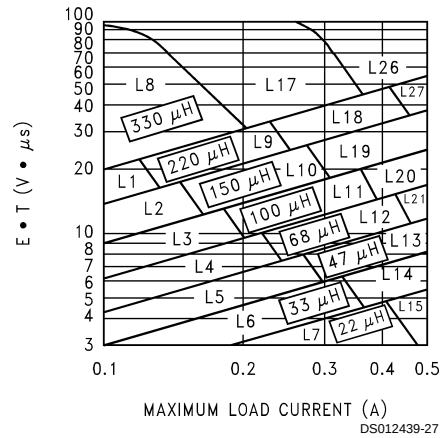

FIGURE 7. LM2594/LM2594HV-ADJ
1. Programming Output Voltage (Selecting R_1 and R_2, as shown in Figure 1.) Use the following formula to select the appropriate resistor values. $V_{OUT} = V_{REF} \left(1 + \frac{R_2}{R_1} \right) \quad \text{where } V_{REF} = 1.23V$ Select a value for R_1 between 240Ω and 1.5 kΩ. The lower resistor values minimize noise pickup in the sensitive feedback pin. (For the lowest temperature coefficient and the best stability with time, use 1% metal film resistors.) $R_2 = R_1 \left(\frac{V_{OUT}}{V_{REF}} - 1 \right)$ 2. Inductor Selection (L1) A. Calculate the inductor Volt microsecond constant $E \cdot T$ ($V \cdot \mu s$), from the following formula: $E \cdot T = (V_{IN} - V_{OUT} - V_{SAT}) \cdot \frac{V_{OUT} + V_D}{V_{IN} - V_{SAT} + V_D} \cdot \frac{1000}{150 \text{ kHz}} (V \cdot \mu s)$ where V_{SAT} = internal switch saturation voltage = 0.9V and V_D = diode forward voltage drop = 0.5V B. Use the $E \cdot T$ value from the previous formula and match it with the $E \cdot T$ number on the vertical axis of the Inductor Value Selection Guide shown in Figure 7. C. on the horizontal axis, select the maximum load current. D. Identify the inductance region intersected by the $E \cdot T$ value and the Maximum Load Current value. Each region is identified by an inductance value and an inductor code (LXX). E. Select an appropriate inductor from the four manufacturer's part numbers listed in Figure 8. 3. Output Capacitor Selection (C_{OUT}) A. In the majority of applications, low ESR electrolytic or solid tantalum capacitors between 82 μF and 220 μF provide the best results. This capacitor should be located close to the IC using short capacitor leads and short copper traces. Do not use capacitors larger than 220 μF. For additional information, see section on output capacitors in application information section. B. To simplify the capacitor selection procedure, refer to the quick design table shown in Figure 3. This table contains different output voltages, and lists various output capacitors that will provide the best design solutions. C. The capacitor voltage rating should be at least 1.5 times greater than the output voltage, and often much higher voltage ratings are needed to satisfy the low ESR requirements needed for low output ripple voltage.	1. Programming Output Voltage (Selecting R_1 and R_2, as shown in Figure 1) Select R_1 to be 1 kΩ, 1%. Solve for R_2. $R_2 = R_1 \left(\frac{V_{OUT}}{V_{REF}} - 1 \right) = 1k \left(\frac{20V}{1.23V} - 1 \right)$ $R_2 = 1k (16.26 - 1) = 15.26k$, closest 1% value is 15.4 kΩ. $R_2 = 15.4 \text{ k}\Omega$. 2. Inductor Selection (L1) A. Calculate the inductor Volt • microsecond constant ($E \cdot T$) , $E \cdot T = (28 - 20 - 0.9) \cdot \frac{20 + 0.5}{28 - 0.9 + 0.5} \cdot \frac{1000}{150} (V \cdot \mu s)$ $E \cdot T = (7.1) \cdot \frac{20.5}{27.6} \cdot 6.67 (V \cdot \mu s) = 35.2 (V \cdot \mu s)$ B. $E \cdot T = 35.2 (V \cdot \mu s)$ C. $I_{LOAD(max)} = 0.5A$ D. From the inductor value selection guide shown in Figure 7, the inductance region intersected by the 35 ($V \cdot \mu s$) horizontal line and the 0.5A vertical line is 150 μH, and the inductor code is L19. E. From the table in Figure 8, locate line L19, and select an inductor part number from the list of manufacturers part numbers. 3. Output Capacitor Selection (C_{OUT}) A. See section on C_{OUT} in Application Information section. B. From the quick design table shown in Figure 3, locate the output voltage column. From that column, locate the output voltage closest to the output voltage in your application. In this example, select the 24V line. Under the output capacitor section, select a capacitor from the list of through hole electrolytic or surface mount tantalum types from four different capacitor manufacturers. It is recommended that both the manufacturers and the manufacturers series that are listed in the table be used. In this example, through hole aluminum electrolytic capacitors from several different manufacturers are available. 82 μF 50V Panasonic HFQ Series 120 μF 50V Nichicon PL Series C. For a 20V output, a capacitor rating of at least 30V or more is needed. In this example, either a 35V or 50V capacitor would work. A 50V rating was chosen because it has a lower ESR which provides a lower output ripple voltage. Other manufacturers or other types of capacitors may also be used, provided the capacitor specifications (especially the 100 kHz ESR) closely match the types listed in the table. Refer to the capacitor manufacturers data sheet for this information.